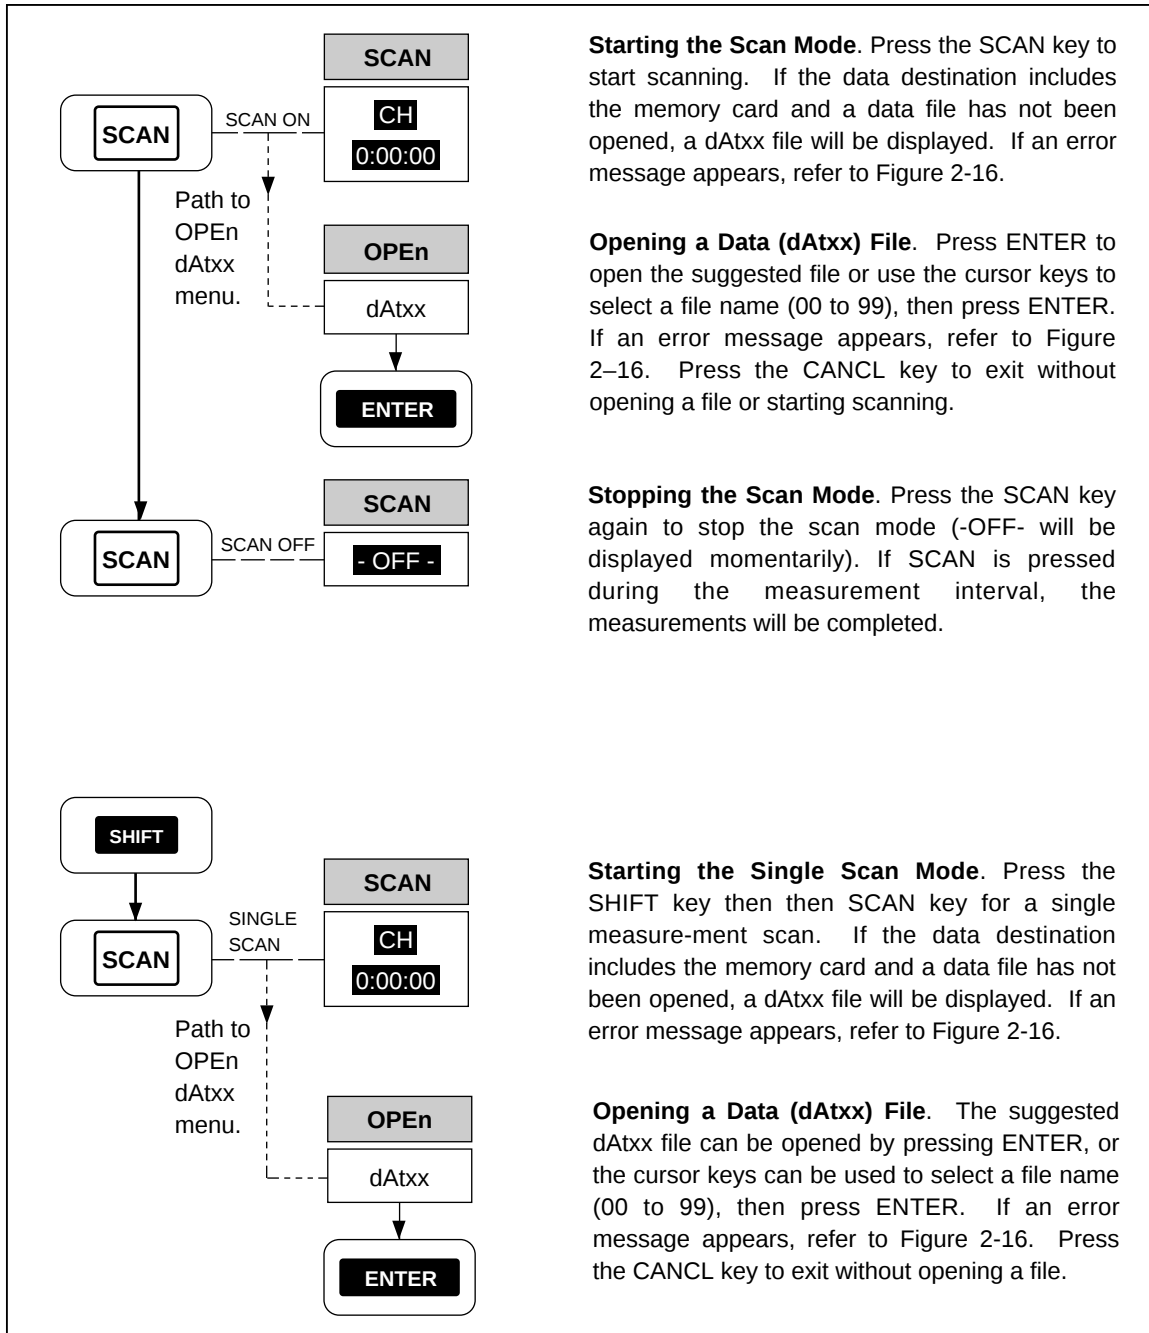
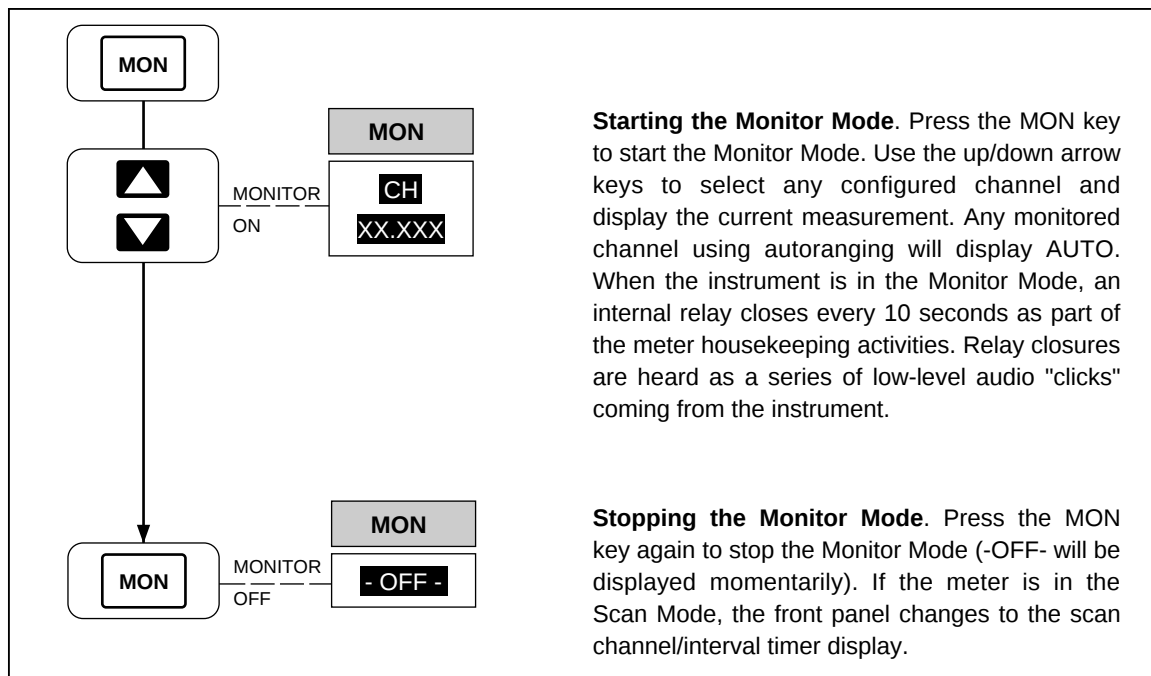
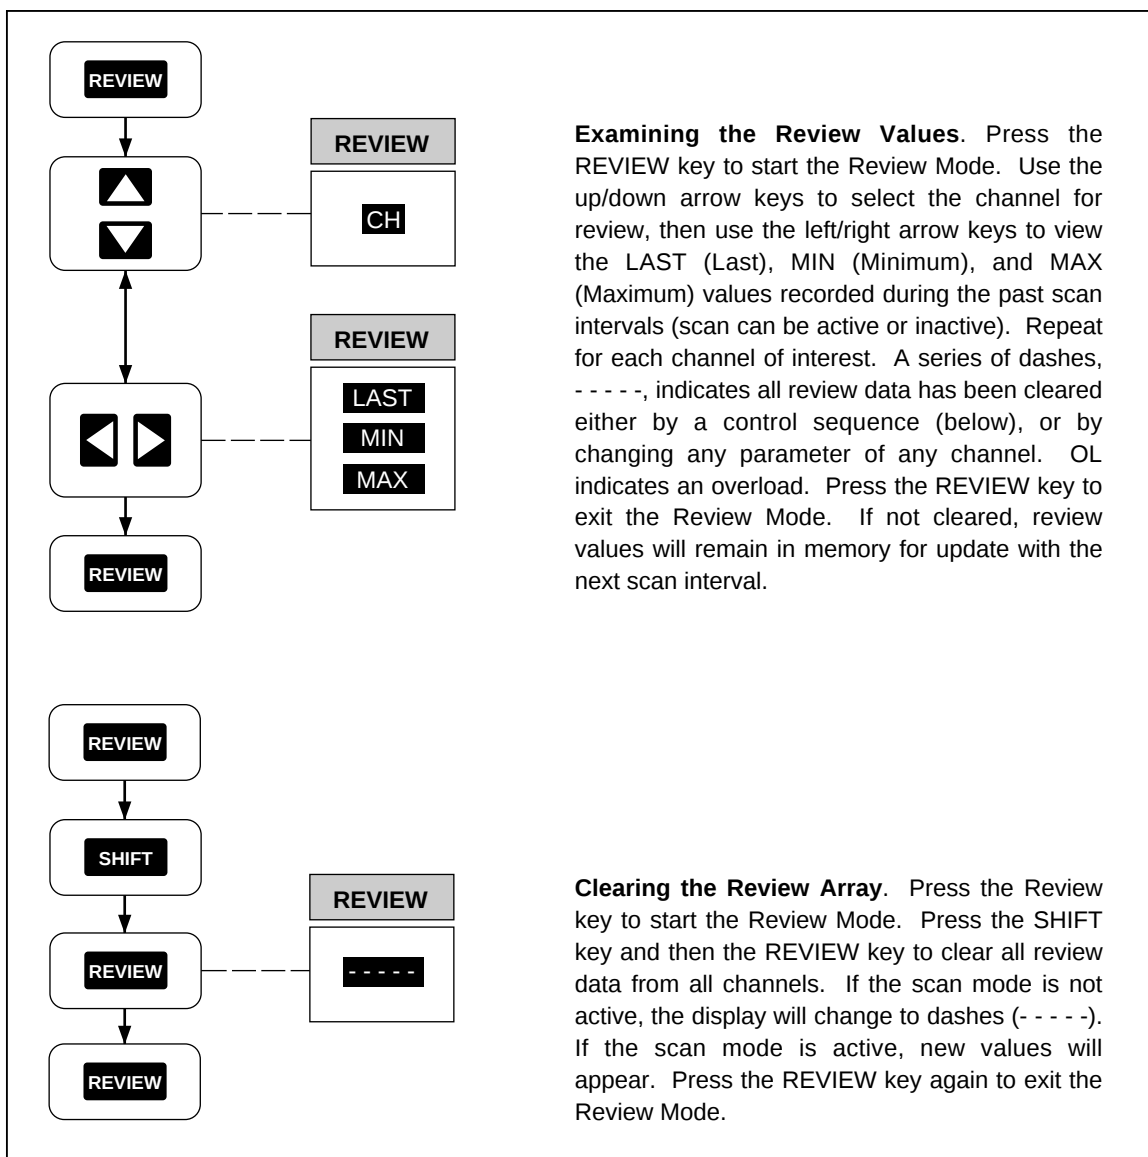

Figure 2-15. Using the Scan Mode
Figure 2-17. Using the Monitor Mode
Figure 2-18. Using the Review Mode
If a scanned channel is in an alarm condition during the scan, the ALARM annunciator is turned on (dim display). If all alarm conditions clear during the next scan, the ALARM annunciator is turned off. See Figure 2-15 for information about the Scan Mode.
- Using the Scan Mode (Figure 2-15)
- Using the Monitor Mode (Figure 2-17)
- Using the Review Mode (Figure 2-18)
Perform the procedure in Figure 2-15 to start and stop the Scan Mode of operation. The Scan Mode can be started when the instrument is inactive, in Monitor (Figure 2-17), or Review (Figure 2-18). Measurement results can be sent to a memory card (see Chapter 3, "Memory Card Operations") and PC (see Chapter 4, "Computer Operations") or printer (see Chapter 5, "Printer Operations"). When using the Scan Mode with a memory card, consider each of the following topics. (Memory card error messages are summarized in Figure 2-16.)
Perform the procedure in Figure 2-17 to start and stop the Monitor Mode of operation. The Monitor Mode can be started when the instrument is in the inactive mode or in the Scan Mode. The Monitor Mode commands the instrument to display the present measurement for any selected channel (except channels set to OFF) and to display alarm information if the channel is in alarm. If the Monitor Mode is used without the Scan Mode, the instrument operates like a multimeter. If the Monitor Mode is used with the Scan Mode, the instrument also operates like a multimeter but measurements can be recorded into memory, printed out, and reviewed (maximum, minimum, last values). The Monitor-Alarm triggering option uses the Monitor Mode to start or stop scans when a selected channel goes into or out of alarm (see Figure 2-19). If the instrument is in the Monitor Mode and scanning using the memory card, any illegal memory card operations are noted only with a double "beep." When you hear a double beep, exit the Monitor Mode and investigate the memory card error (see Figure 2-16).
Perform the procedure in Figure 2-18 to operate the Review Mode of operation. The Review Mode is used any time during or after operation of the Scan Mode. While the instrument is in the Scan Mode, the last, maximum, and minimum measurements for each scanned channel are stored in memory and updated with each scan, forming the Review Array. For example, during scan operations, **REVIEW** can be used to monitor the maximum measurement of a channel in real time. The Review Array is cleared by a control sequence (see Figure 2-18 below), or by changing any parameter of any channel or the measurement rate. The Review Array can be printed out using the **LIST** key (see Figure 5-4). If the instrument is in the Review Mode and scanning using the memory card, any illegal memory card operations is noted only with a double "beep." If a double beep is heard, exit the Review Mode and check the memory card error (see Figure 2-16).
To verify the equipment setup when the memory card is used to record data, use the Single Scan mode (see Figure 2-15) to record a single scan. Any problems with the memory card or setup can be observed and corrected. If a triggering option triggers scanning without an open memory card dAtxx file, the instrument will automatically open a file when a usable memory card is in the instrument. If no memory card is installed or the memory card is not usable, the most recent 75 scans are saved in an internal memory. To record the saved scans, insert a usable memory card and open a file (see Figure 3-8). The stored scans will be transferred to the card.